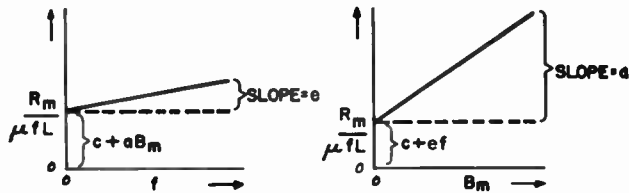
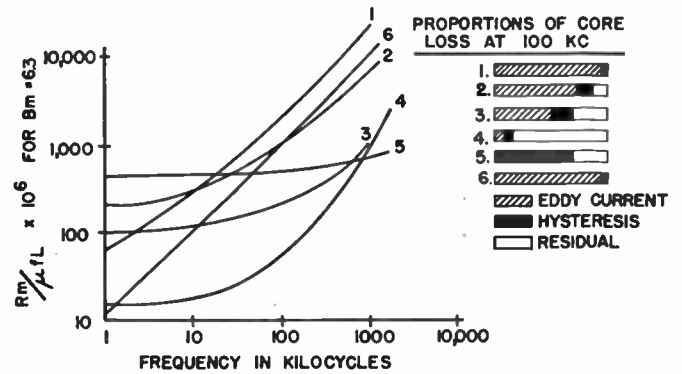

Fig. 3—Graphical separation of core-loss coefficients.
Fig. 4—Comparison of core-loss characteristics of several magnetic materials. Note log scales not suitable for core-loss separation.
Coefficients e , a , and c can be determined graphically (see Fig. 3). Comparative values for the coefficients and losses of several materials are shown in Fig. 4.
When the magnetic losses in ferrites are analyzed (see (1)), it is found that the loss per cycle increases with ascending frequencies at a more rapid rate than indicated from eddy current calculations based on dc resistivity. The plot of $R_m / \mu f L$ versus frequency (see Fig. 3) is not straight, but curves upward at a rate